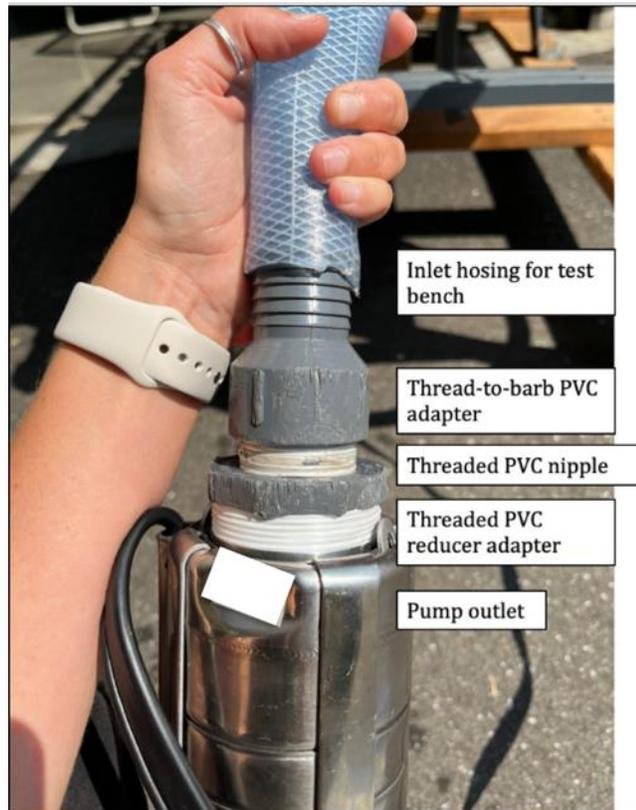

Figure 16. PVC adapters for pump outlet
20. If the SWP is a surface pump, position it so that it's sitting on the ground or on a stool next to the water trough and its intake hosing end is positioned under the water's surface (See Figure 16). For surface pumps, they need to be primed before testing- see the *4 SWP Cold Start and Inrush Current SOP* for instructions on priming SWPs.